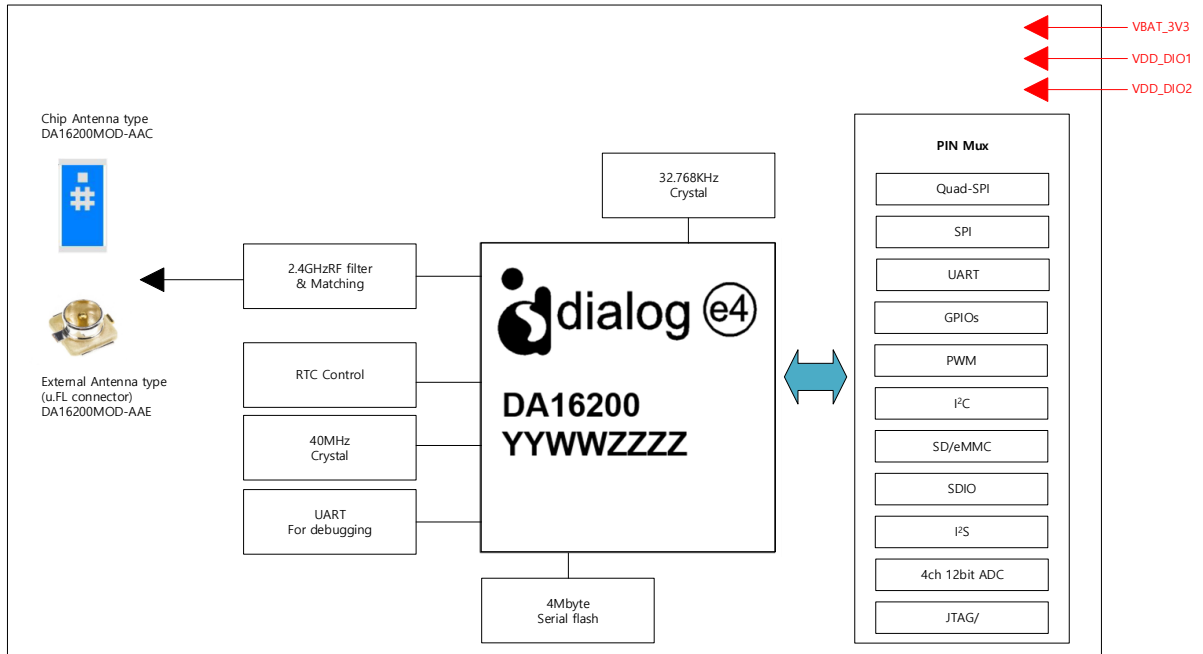

Figure 2: Hardware Block Diagram
Figure 2 shows the DA16200MOD hardware (HW) block diagram.